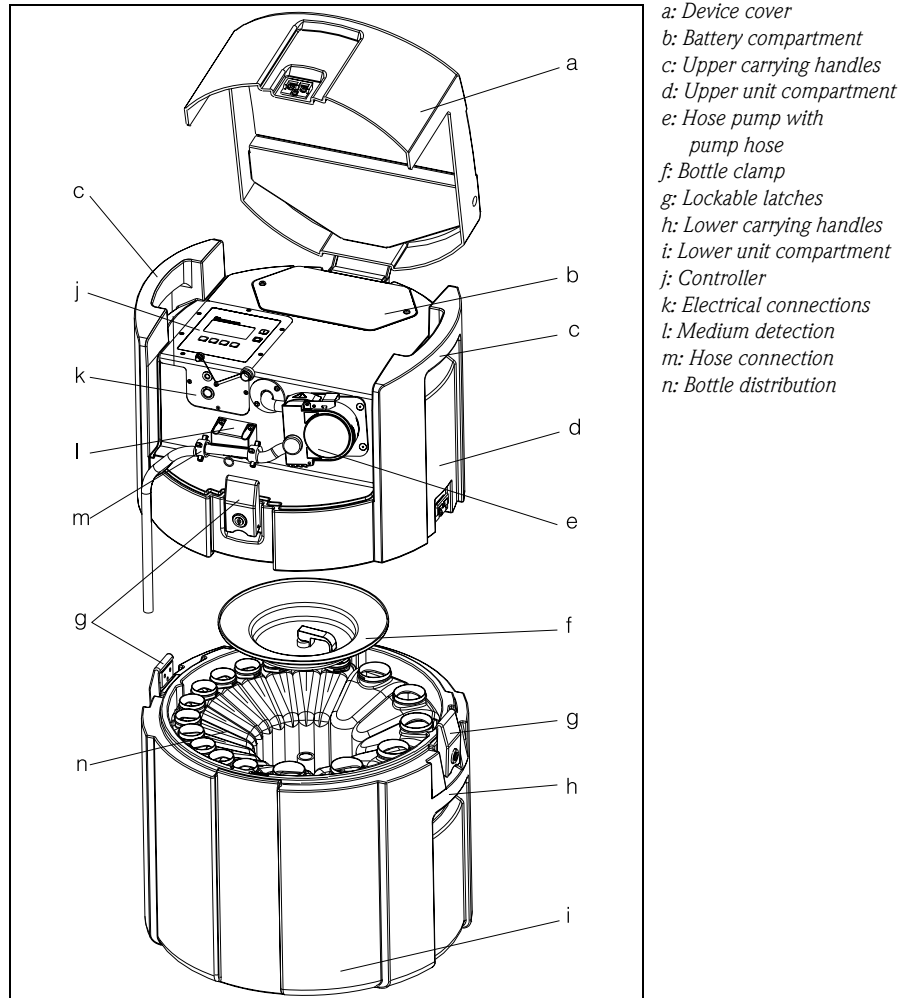

Fig. 2: Liquiport 2000 Ex split elevation view
1. Unscrew the battery compartment cover (→ Fig. 2, item b) with an Allen key (4 mm).
5. Once the battery has been successfully connected, replace the battery compartment cover (→ Fig. 2, item b).
4. Screw the sampling hose to the hose connection on the unit (→ Fig. 2, item m).